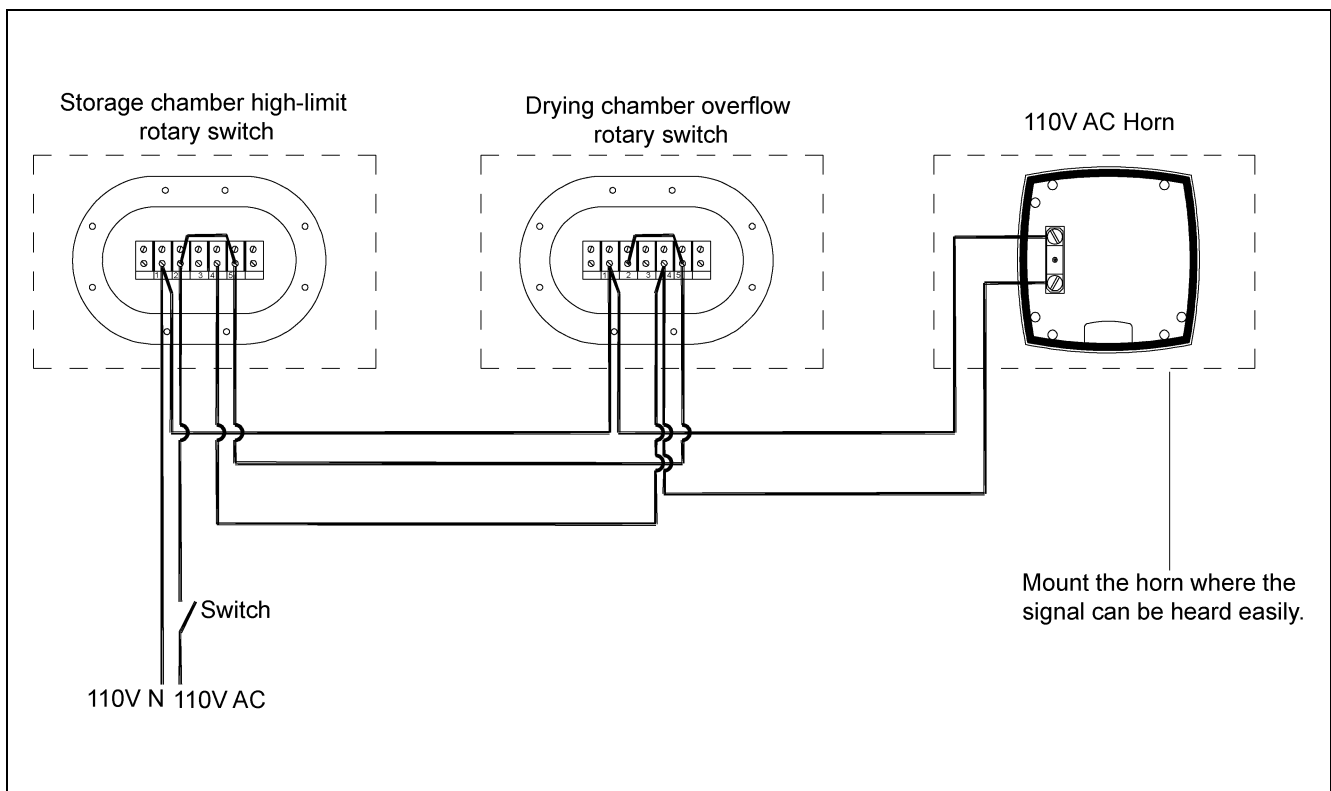

Figure 4I Wiring for the Rotary Switches and Horn
A drying chamber overflow rotary switch and a storage chamber high level rotary switch can be used to let the operator know when the drying chamber or the storage chamber is full. Figure 4I details one possible way of wiring both the drying chamber and the storage chamber rotary switches so that the horn will sound when either the drying chamber or the storage chamber is full. To wire the rotary switches and the horn do the following:
1. Run two (2) wires between an ON/OFF switch and the storage chamber rotary switch.
2. Run three (3) wires between the storage chamber rotary switch and the drying chamber rotary switch.
3. Run two (2) wires between the drying chamber switch and the horn.
4. Connect the wires as shown in Figure 4I.